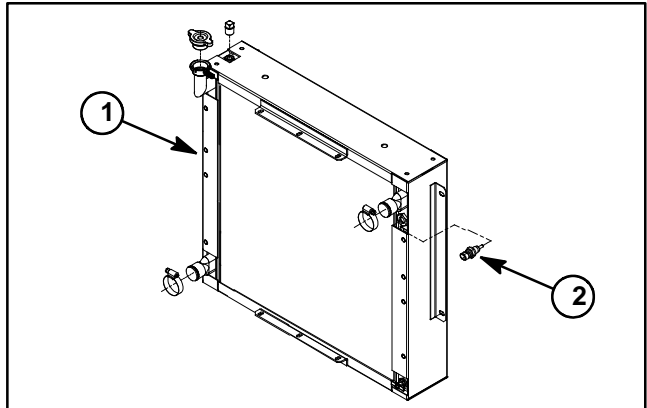
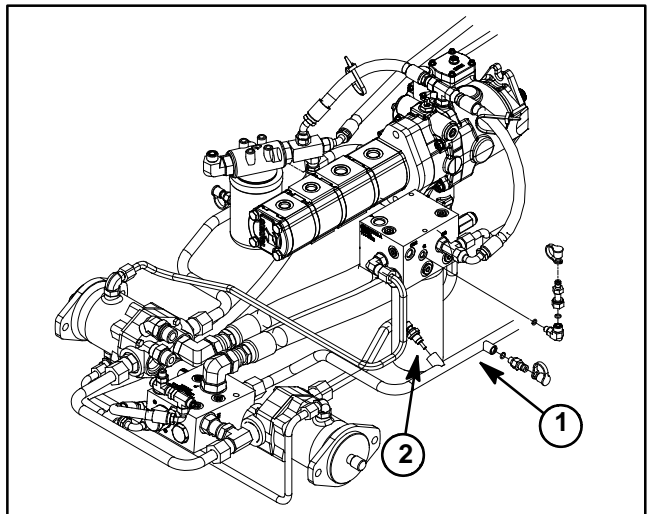

Figure 57
Figure 58
The Groundsmaster 4100-D uses two (2) temperature senders as inputs for the TEC-5002 to identify if either the engine coolant or hydraulic oil temperature has reached an excessive level. These senders are identical. The coolant temperature sender threads into the radiator (Fig. 57). The hydraulic oil temperature sender is attached to the hydraulic hydraulic tube on the left side of the machine (Fig. 58).